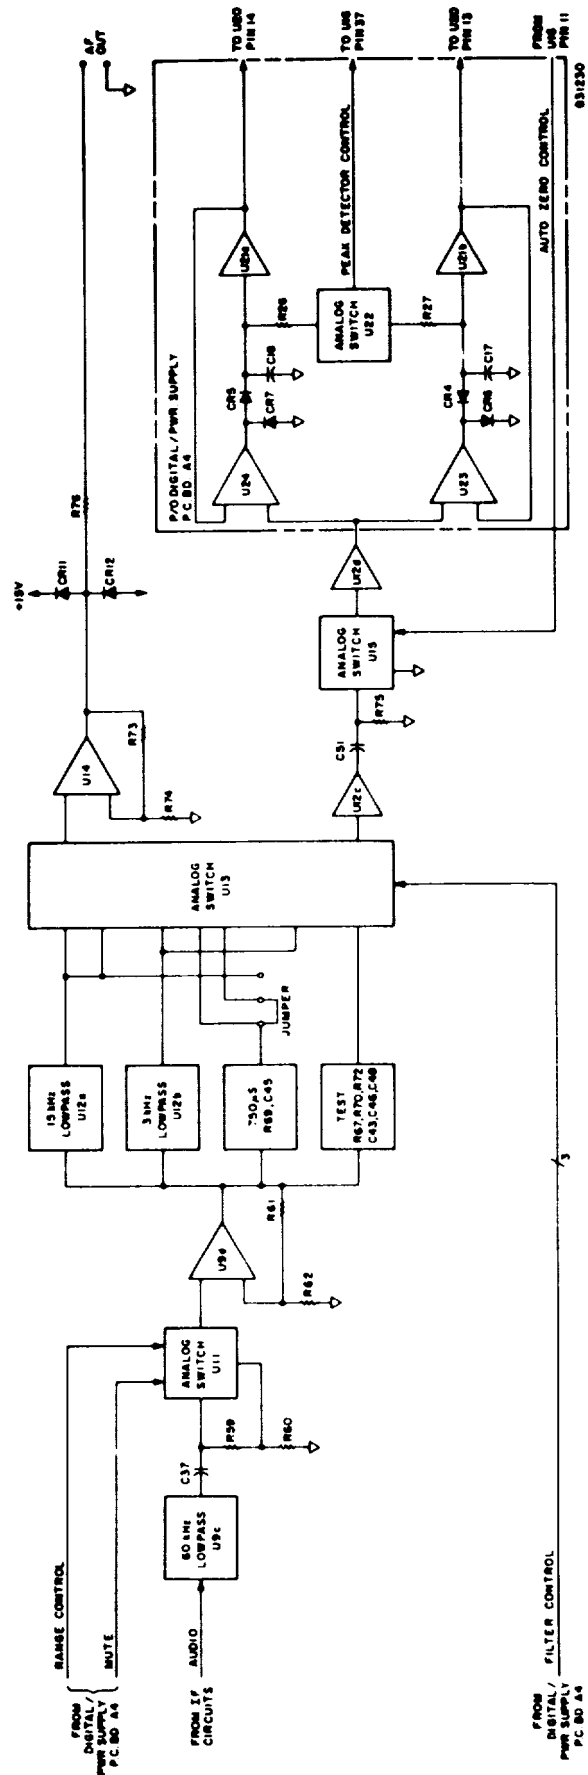

Figure 3-6. A.F. Circuits: Detailed Block Diagram
d. A.F. Circuits. The audio circuits process the recovered modulation signal supplied from the a.m. or the f.m. detector circuits--as determined by the front-panel FUNCTION switch. The recovered signal is filtered and converted to a d.c. level, which is then measured; the result is presented on the front-panel LED display. Refer to Figure 3-6.
- (1) The signal from the output of the a.m.-f.m. switch U10, is filtered by active filter U9c and associated components. This filter is part of a three-pole 60 kHz filter, which removes most of the if. component from the recovered signal. The filtered signal is then a.c. coupled to a 20 dB attenuator: R59, R60. CMOS switch U11 selects either the signal, or the attenuated signal, as determined by the front-panel RANGE switch. Additionally, the logic circuitry can program U11 to disconnect the recovered signal in order to prevent audio-circuit overload when the instrument is unlocked.
- (2) The signal is then amplified (x11) by U9d and is coupled to the 15 kHz filter, the 3 kHz filter, and the 750 μ s de-emphasis network. U12a and associated components form the 15 kHz filter; U16b and associated components form the 3 kHz filter. Both are three-pole Butterworth types. The 750 μ s de-emphasis network is a single RC section: R69, C45. A jumper circuit is provided to give the option of connecting the de-emphasis network either before or after the measuring circuits.
- (3) CMOS switch U13 selects one of the three filters, as determined by the front-panel FILTER switch. In addition, the logic circuitry can program U13 to select--during calibration--a filter consisting of R67, R70, R72, C43, C46 and C48. One of the outputs of U13 is amplified (x2.8) by U14 and routed to the front-panel AF OUT connector. The other output is buffered by voltage-follower U12c and a.c. coupled to U15, an auto-zero switch. U15 is operated by the logic circuitry to disconnect the recovered signal for a period of time adequate to determine the output of the peak detectors with no input. The switch is then closed, and the modulation signals are connected through buffer U12d to the peak detectors.
- (4) The positive-peak detector consists of U24, U21a, CR1, CR3 and C18. During the positive excursion of the modulating signal, the output of U24 is driven positive; C18 then charges through CR1. U21a buffers the voltage across C18, and adds a small offset. When the output of U21a reaches a value equal to the peak of the waveform plus a small increment, the output of U24 goes negative and thus terminates the charging. The voltage at the output of U21a is then equal to the positive peak of the modulating signal.
- (5) Similarly, U23, U21b, CR4, CR6 and C17 constitute a negative-peak detector. In addition, U22 provides a means for resetting both detectors for auto-zero measurements.